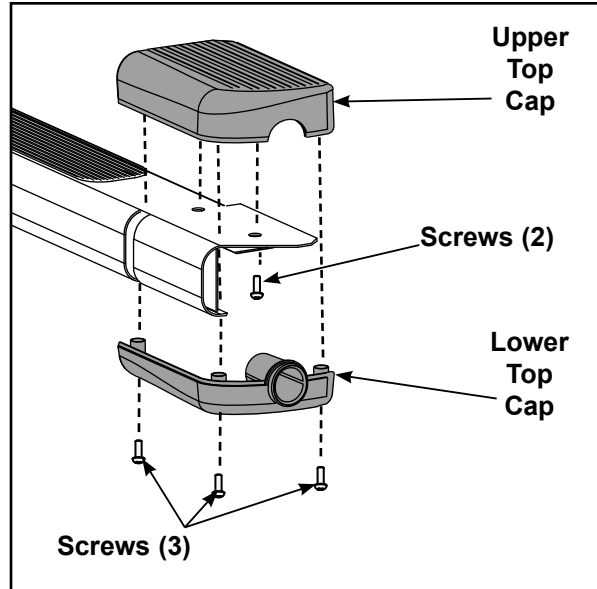

Figure 9
- Using a Phillips screwdriver, remove the three screws securing each of the lower top caps to the upper top caps. See Figure 9.
- C. Using a Phillips screwdriver, remove the two screws securing each of the upper top caps to the top platforms See Figure 9.
- A. Using a Phillips screwdriver, secure the two screws securing each of the bottom caps to the frame See Figure 9.
- B. Using a Phillips screwdriver, install the two screws securing each of the upper top caps to the top platforms. See Figure 9.
- C. Using a Phillips screwdriver, install the three screws securing each of the lower top caps to the upper top caps. See Figure 9.
- B. Using a 7/16" socket wrench, install the two screws, two split washers and two flat washers that hold the back of the deck in place. See Figure 9.
- C. Using a 3/16" Hex key, install the two screws, two split washers and two flat washers that hold the front of the deck in place. See Figure 9.